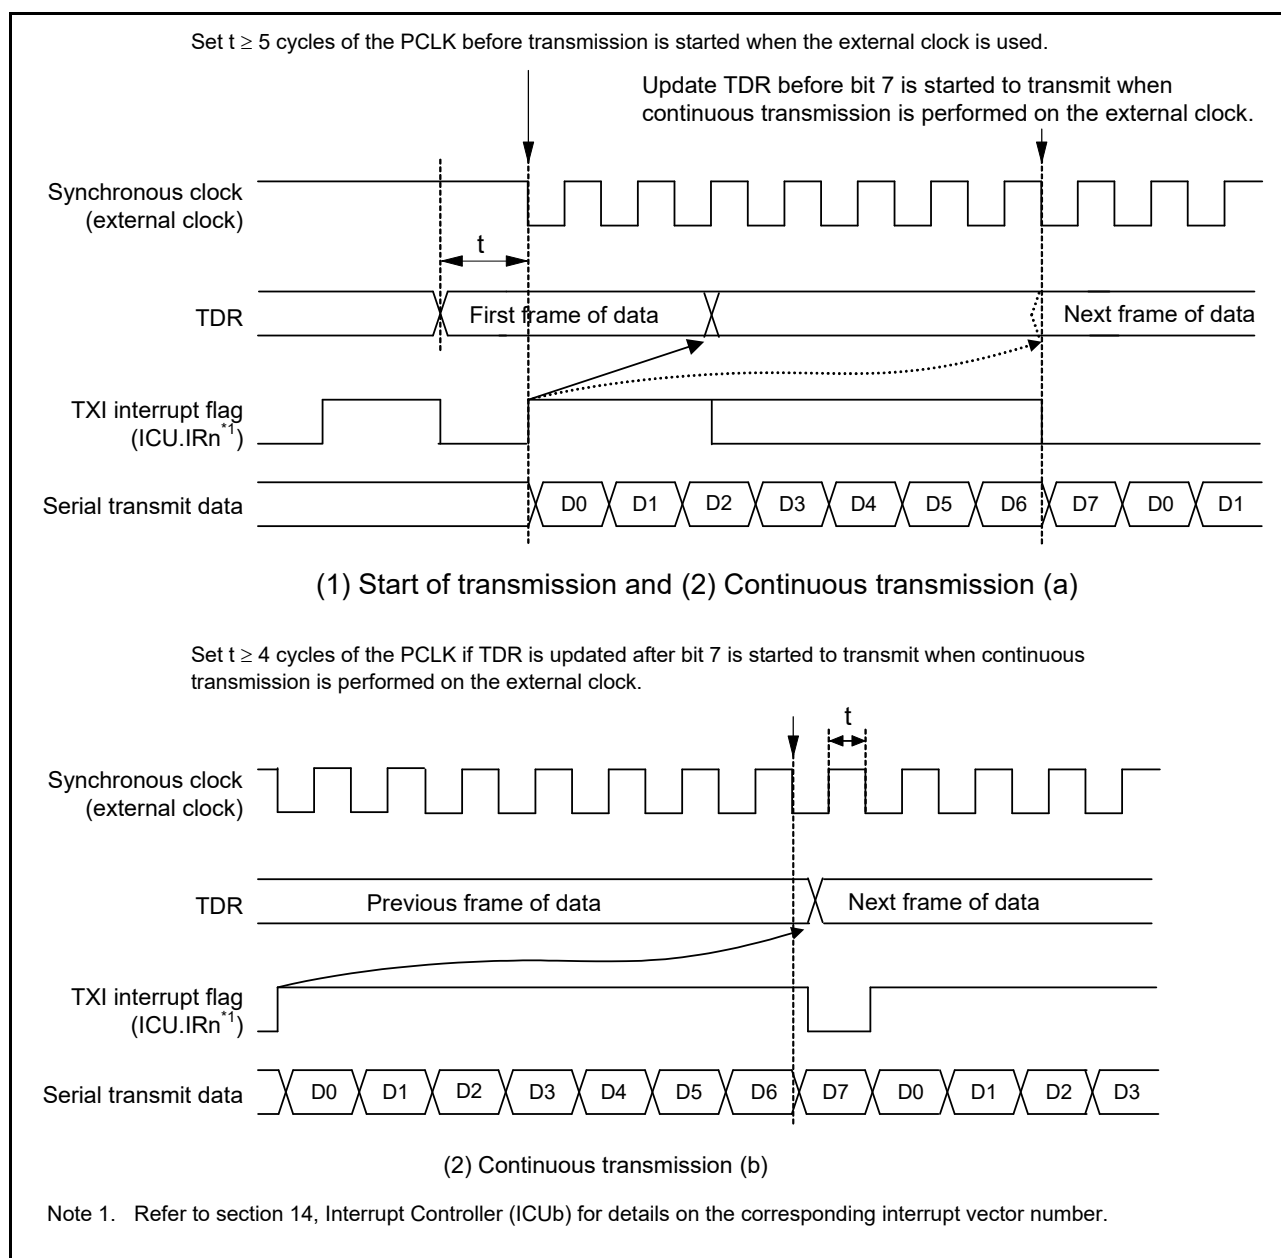

**Figure 23.75 Restrictions on Use of External Clock in Clock Synchronous Transmission**
Update TDR by the CPU or DTC and wait for at least five PCLK cycles before allowing the transmit clock to be input (refer to Figure 23.75).
- (a) Write the next transmit data to TDR or TDRL before the falling edge of the transmit clock (bit 7) (refer to Figure 23.75).
- (b) When updating TDR after bit 7 has started to transmit, update TDR while the synchronization clock is in the low-level period, and set the high-level width of the transmit clock (bit 7) to four PCLK cycles or longer (refer to Figure 23.75).